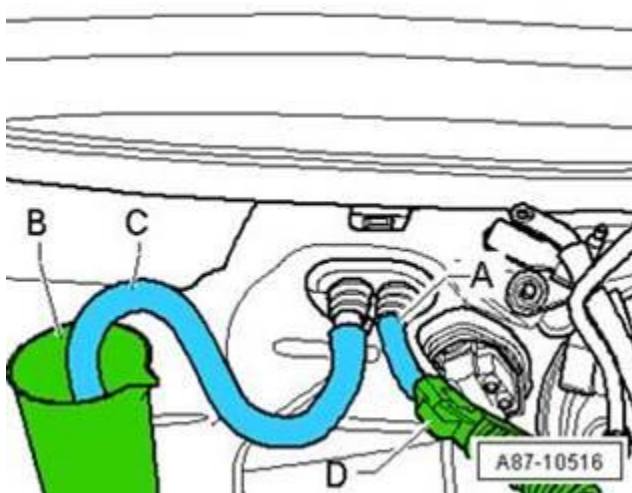

Figure 8. Blowing out heater core.
8. Blow the coolant out of the heat exchanger(s) in the **opposite flow direction** (Figure 8).